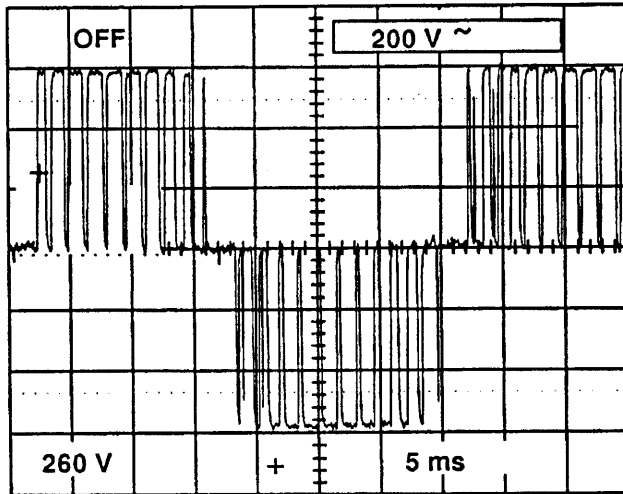
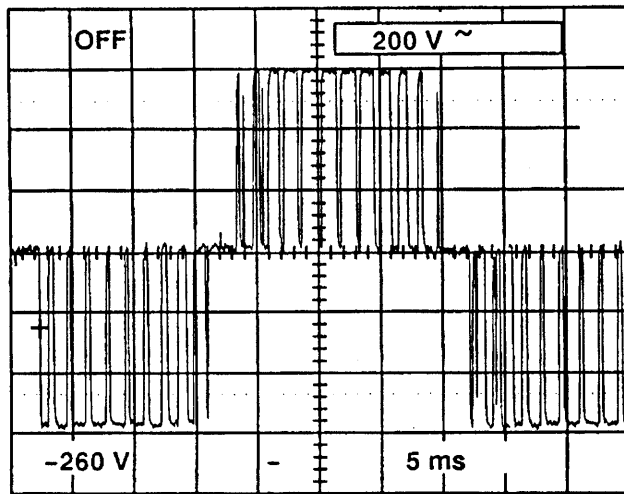

Figure 3-36: Motor Drive Signals Separated by a Low Region
Figure 3-37: Motor Drive Signals Separated by a High Region
- Step 2:** Set the trigger slope to + for pulse groups separated by a "low" region (Figure 3-36). Set the trigger slope to - if the region separating the pulse groups is "high" (Figure 3-37).